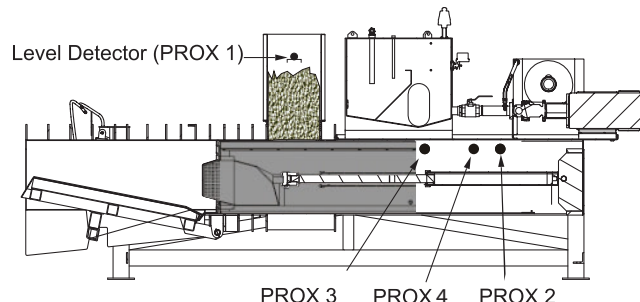

Figure 24 - Product Piling On Top Of Plunger. Plunger In Home Position (fully extended).
1. **START-UP** SYSTEM CNTRL switch in START extends the plunger. AUTO PLUG switch in AUTO raises the restriction rail. Product falling through the in-feed chute falls onto the plunger top surface (see Figure 24).
**NOTE:** Any time the system is stopped with the **EMERG STOP** or the **SYSTEM CNTRL** Switch, when re-started the plunger will return to home position (see Figure 24 - Pg. 20).